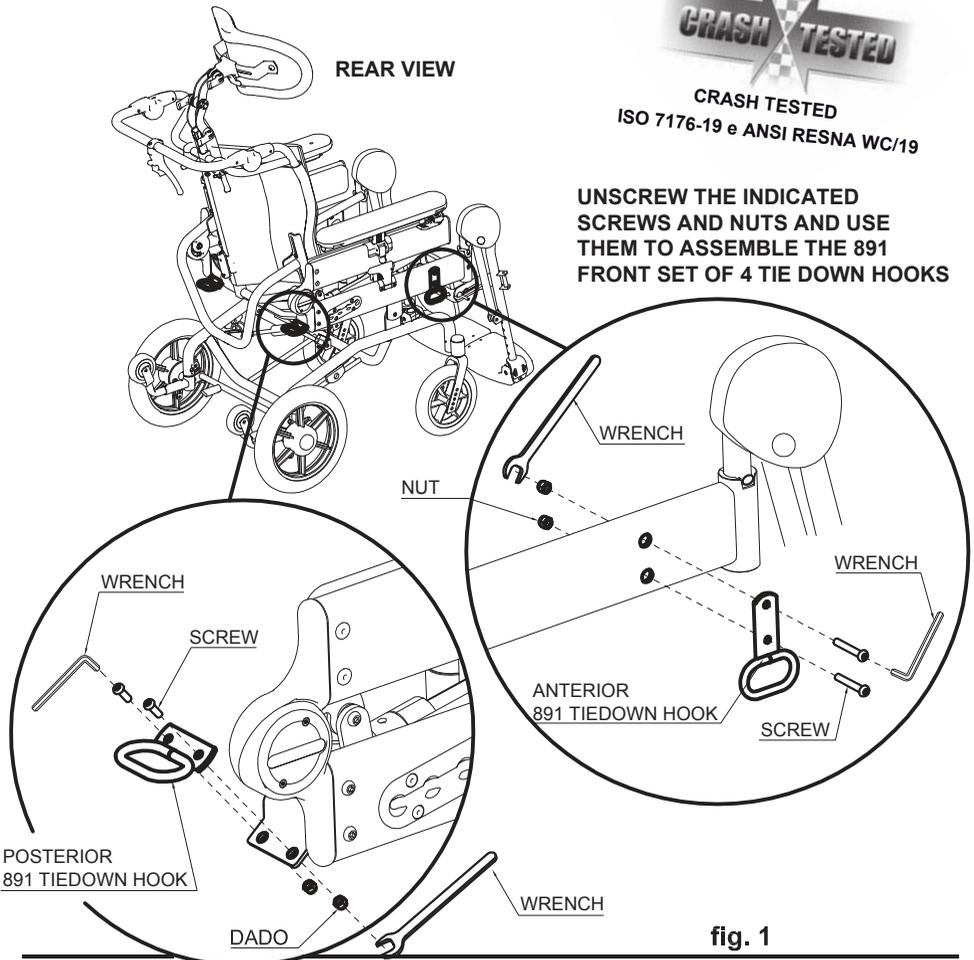

fig. 1
- **THE WHEELCHAIR MUST BE ANCHORED TO THE VEHICLE WITH THE BACKREST AND THE LEGRESTS IN THE UPRIGHT POSITION using: 1) a four-point strap-type tie down system that complies with ISO 10542-2 supplied with the vehicle (see fig.2, page 14) and 2) our accessory 891 – SET OF 4 TIE-DOWN HOOKS (4 rings) (see fig. 1, page 13, fig.2 page 14 and fig.3 page 15)**
To adjust the **SEAT DEPTH** move the position of the pin (fig.2) in the same position of the side runners of the backrest (fig.1): **A-A B-B C-C D-D**